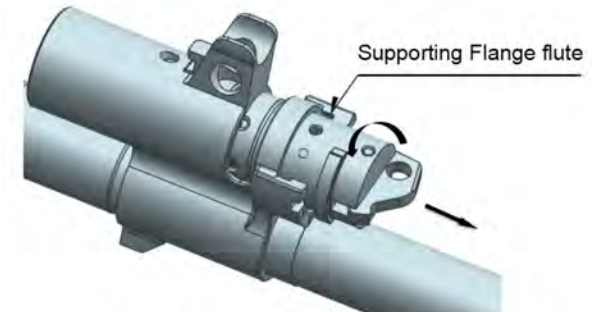

Fig. 21 Removing the gas control, Step 4
- (3) After pulling the gas control outward to the extreme position (with the misassembly-proof pin in contact with the supporting flange groove), turn it in the direction shown in Fig. 21 until the pin leaves the flange groove completely. Continue to pull the gas control outward until it is disconnected from the gas block (See Fig. 21).